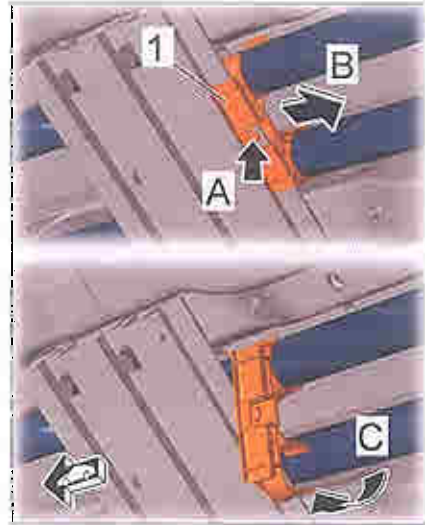

Figure 5
- 7.1 Release holder for coolant pipes ⇒ *Figure 5-1-* at the locking lug ⇒ *Figure 5 -arrow A-* and slide it slightly to the rear ⇒ *Figure 5 -arrow B-*.
- 7.2 Unclip holder by pulling it downwards out of the coolant pipe on the right in direction of travel ⇒ *Figure 5 -arrow C-*.